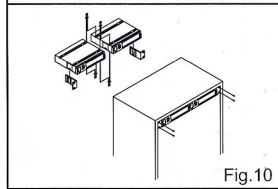

Fig.10
5. With two rackmount brackets installed, receiver can be mounted into an EIA standard rackmount case, as shown in Fig. 10. As an accessory, you may purchase from nearest dealer a front antenna kit, which not only allows easy front antenna installation, but also improves efficiency of signal reception.